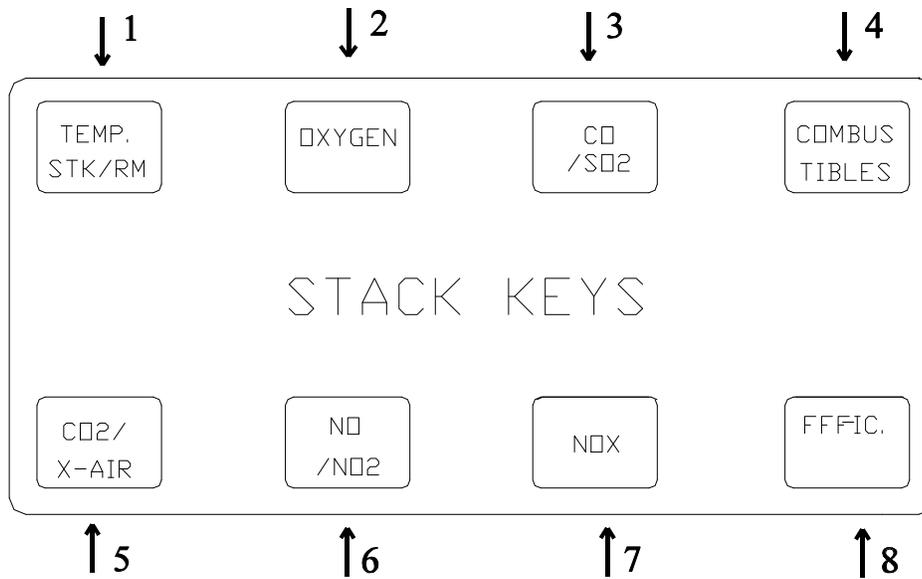

FIGURE 1
3. You can now read on the display any two stack parameters that you wish simply by operating any of the eight basic buttons shown in Fig.1.